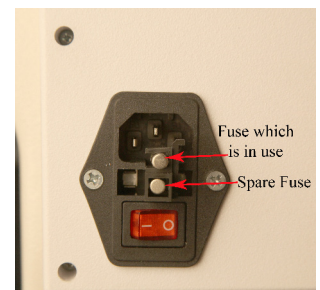

Figure 10
Step 3: A spare fuse is held in the holder if you have used this one then you will need to pick up a fuse. *See figure 10*